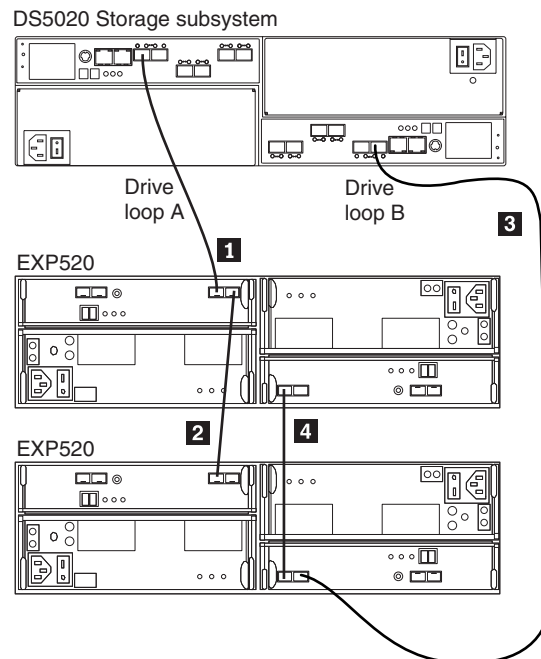

Figure 28. Correct EXP520 redundant drive loop configuration
- The controller drive ports of the DS5020 storage subsystem controllers must always be connected to the ports labeled 1B in both right and left ESMs of the EXP520s in the redundant drive channel/loop pair that is connected to the DS5000 storage subsystem. (Figure 28 on page 42 shows the location of the ports.)
Figure 28 shows a redundant drive loop that you might create with a DS5020 storage subsystem and two EXP520s. The numbers provided in Figure 28 show the order in which cables should be attached. Note that the controller port is connected to the port labeled 1B on both the right and left ESMs.
To create drive loop A (of the DS5000 redundant drive loop) shown in Figure 28, you would perform the following steps:
To create drive loop B (of the DS5000 redundant drive loop) shown in Figure 28, you would perform the following steps: